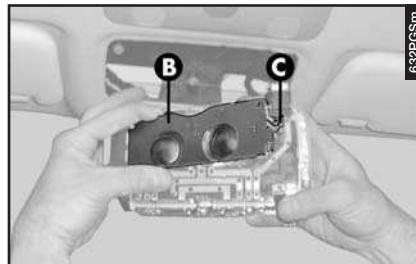

fig. 69
- Remove the screen (**B**-fig. 69) firstly releasing it from the catch (**C**) on the right and then from the two stoppers on the left.